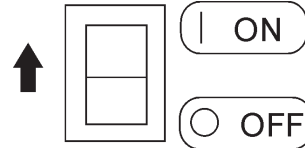

Figure 8. Idle Control Switch
- Place the **idle control switch** (Figure 8) in the **ON** (up) position.
- Place the **idle control switch** (Figure 8) in the **OFF** position.